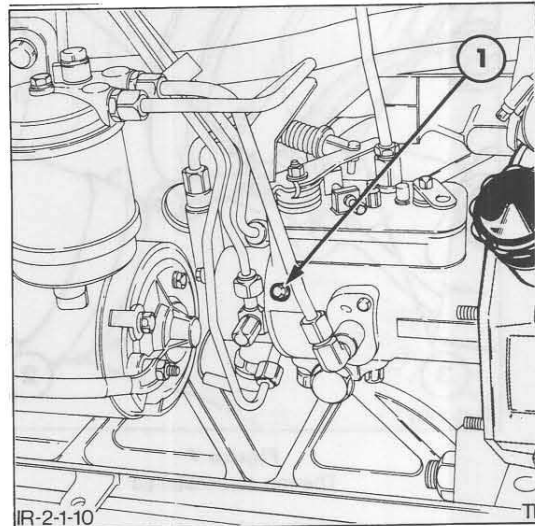

Figure 10
3. Loosen the bleed screw on the injection pump, Figure 10. With the throttle in the fully open position, crank the engine until fuel free from air bubbles is discharged from the bleed screw. Re-tighten the bleed screw.